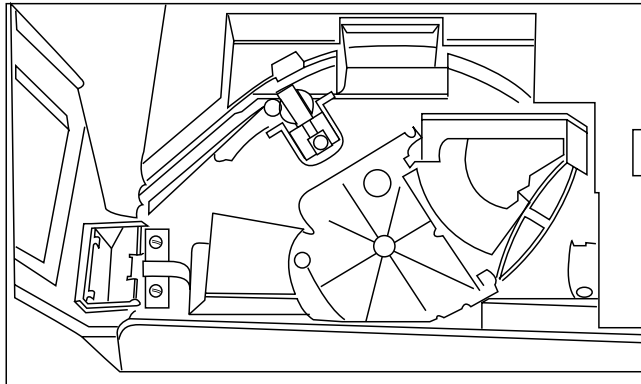

Figure 5-13. Removing Panel
1. Be sure the IBM 3653 terminal is powered-down. Open the door over the ribbon cartridge as shown in Figure 5-13.
2. Loosen the right side panel screw (see Figure 5-13). Grasp the right panel at top of the rear corner; pull out to the side and push back to remove the panel.